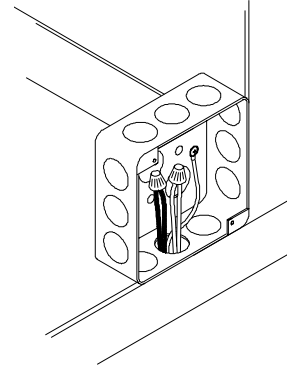

Figure 7. Connecting Permanent Wiring
- A. Connect freezer to a properly grounded 208/230 volt (AC), source of electricity.
- C. For location of proper electrical connections, refer to Figure 7.